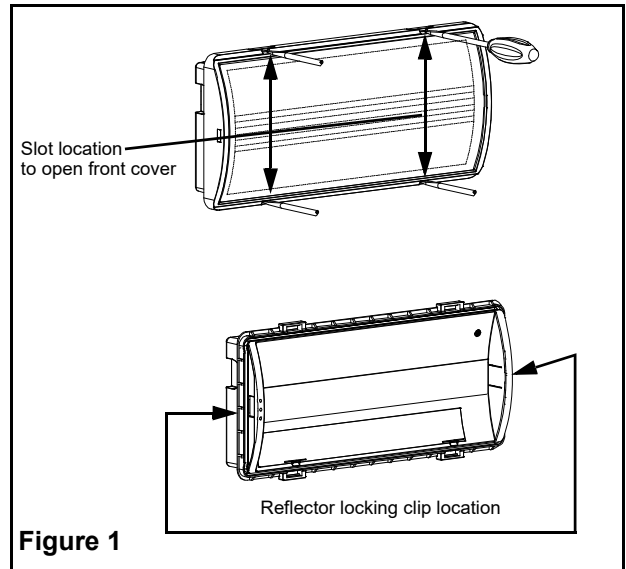

Figure 1
3. Using a flat head screwdriver, insert the blade into the slots and tilt to release the latch and open the front cover (see figure 1).
4. Push in the locking clips located on each side of the reflector and remove the reflector assembly (see figure 1).
7. Reattach reflector assembly. Push in the locking clips located on each side of the reflector and snap in reflector assembly (see figure 1).